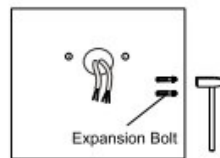

Figure 7
Step 2: Knock the expansion bolts into the wall. [Figure 7]